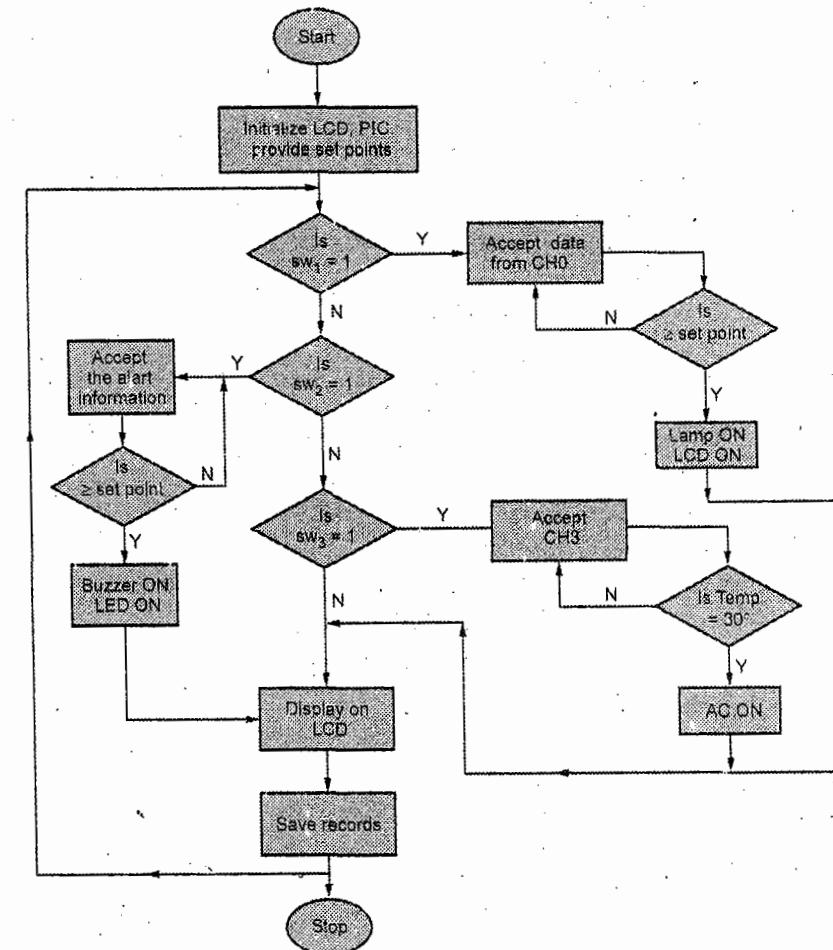

Fig. Q.14.4 Flow chart to access the information
**Flowchart :** The general flowchart for the above problem statement is shown in Fig. Q.14.4